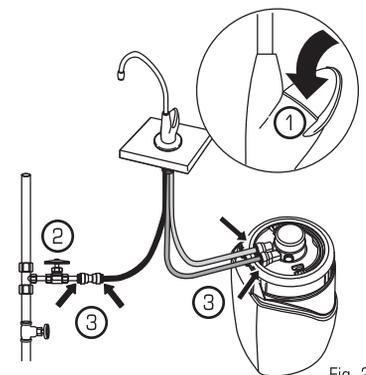

Fig. 23
7. Open the eSpring Faucet (1). Open the water supply shut-off valve to start water flowing through the Carbon Water Treatment System (2) (Fig. 23).
8. Turn off the eSpring Faucet and check for any signs of leakage at all tubing connections (3) (Fig. 23). If there is leaking or bubbling, refer to Troubleshooting, p. 7.